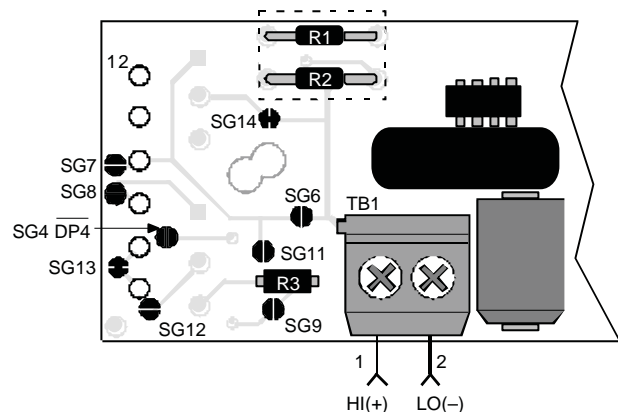

Figure 4. R1 and R2 Installation
3. Input Resistor Dividers (See Figure 4): Use 1%, or better, metal film resistors for R1 and R2 in DMS-30 applications, and 0.5%, or better, in DMS-40LCD applications. Make sure the resistor's power and voltage ratings are adequate for the given application. Using tight-tolerance resistors in input scaling circuits allows most calibration adjustments to be made with the meter's internal rear-mounted potentiometers, through the access holes provided (see Technical Note 5 below).